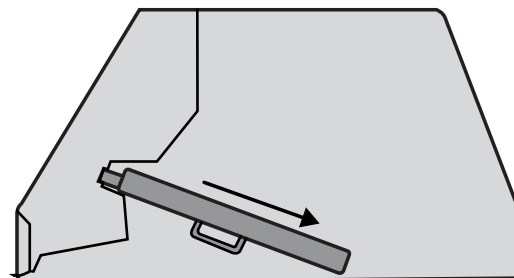

Figure 13
- Raise the other end towards the inside of range hood, rotate and insert in the bottom end of opening (figure 13).